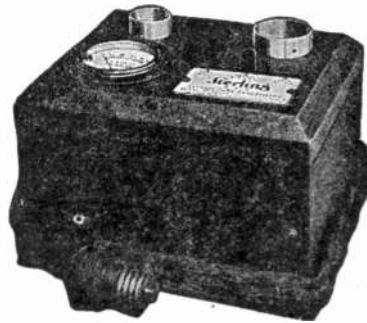

Figure 1. A Commercial type of tube reactivator designed for home use in dwellings where AC power is available.
Fig. 1 is a schematic diagram of the full-wave type of filament tube rectifying circuit with the accompanying filter system. Here we have the two tubes (T1) and (T2) supplied with filament current by the transformer (TR-1). As will be seen, the grids and plates of the tubes are connected together, and are then connected across the outer terminals of the potential transformer (TR-2) which supplies the necessary voltage for the plate circuit, or rather twice the desired voltage when measured across the ends of the transformer (TR-2). A rheostat (R) is used for the control of the filament heating. Usually, both transformers are enclosed in a single magnetic circuit, but in the diagram the two elements are shown separately for simplicity in explanation.
Carl encloses some suggestions for neutralizing the Browning-Drake circuit (or any other circuit for that matter) which we are printing in Figure 1. He also says that the method shown in Figure 2 will give greater selectivity with the Browning-Drake circuit if followed out carefully. If you have any trouble in doping out the details drop him a line. Don't fail to accord him the courtesy of a stamped addressed envelope if you want an answer.